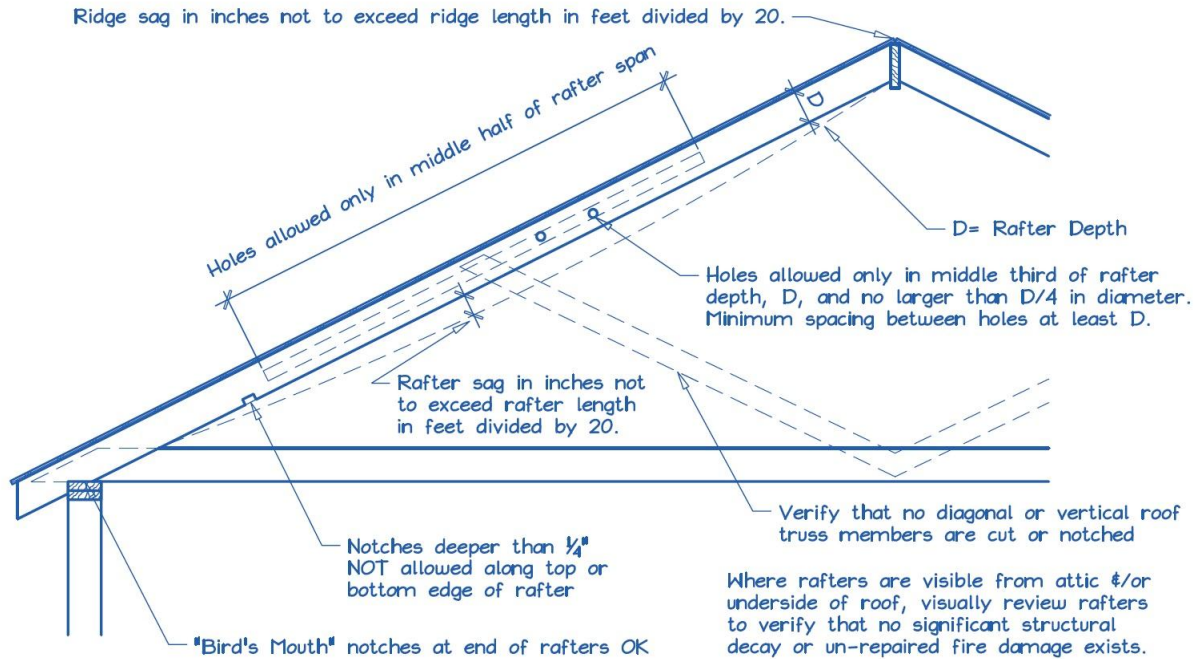

Figure 1. Roof Visual Structural Review (Contractor's Site Audit) of Existing Conditions.
- 2) Does the roof structure appear structurally sound, without signs of alterations or significant structural deterioration or sagging, as illustrated in Figure 1?  Y  N